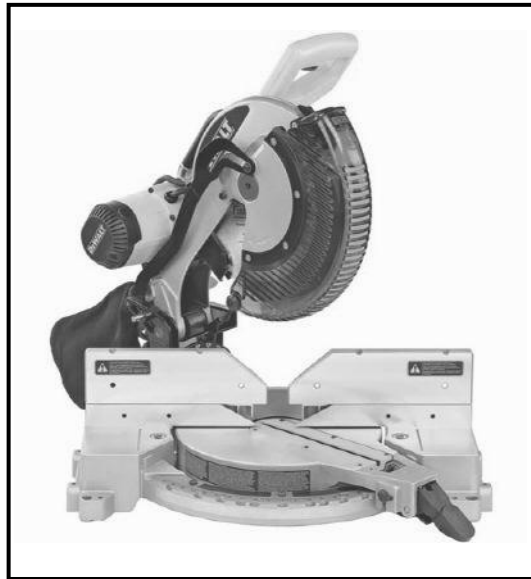

FIGURE 2.1
2.1 FIGURE 2.1 below shows a power tool used on a construction site.
2.1.1 Identify the power tool in FIGURE 2.1. (1)
2.1.3 Justify the use of the equipment in FIGURE 2.1 instead of a hand saw. (2)